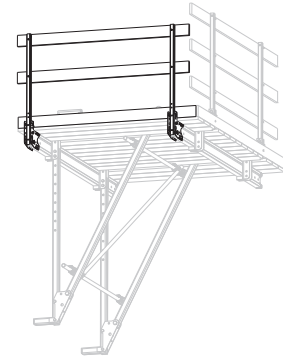

Fig. A1.23
2. Insert Guardrail Post (10) into the Guardrail Post Holder Multi and connect using Bolts and Nuts M20 x 120.
- (Fig. A1.23 + A1.23a)